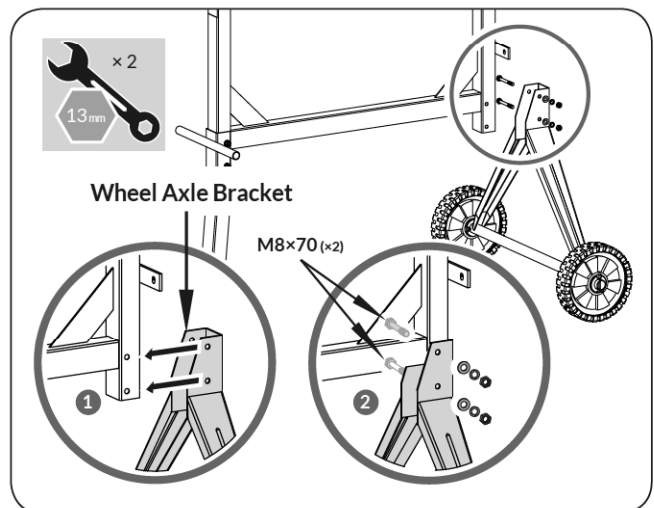

Figure 1c
3. Turn the frame over and attach the axle bracket with wheels in the same manner. (See **Figure 1c, Illustrations 1-2**)